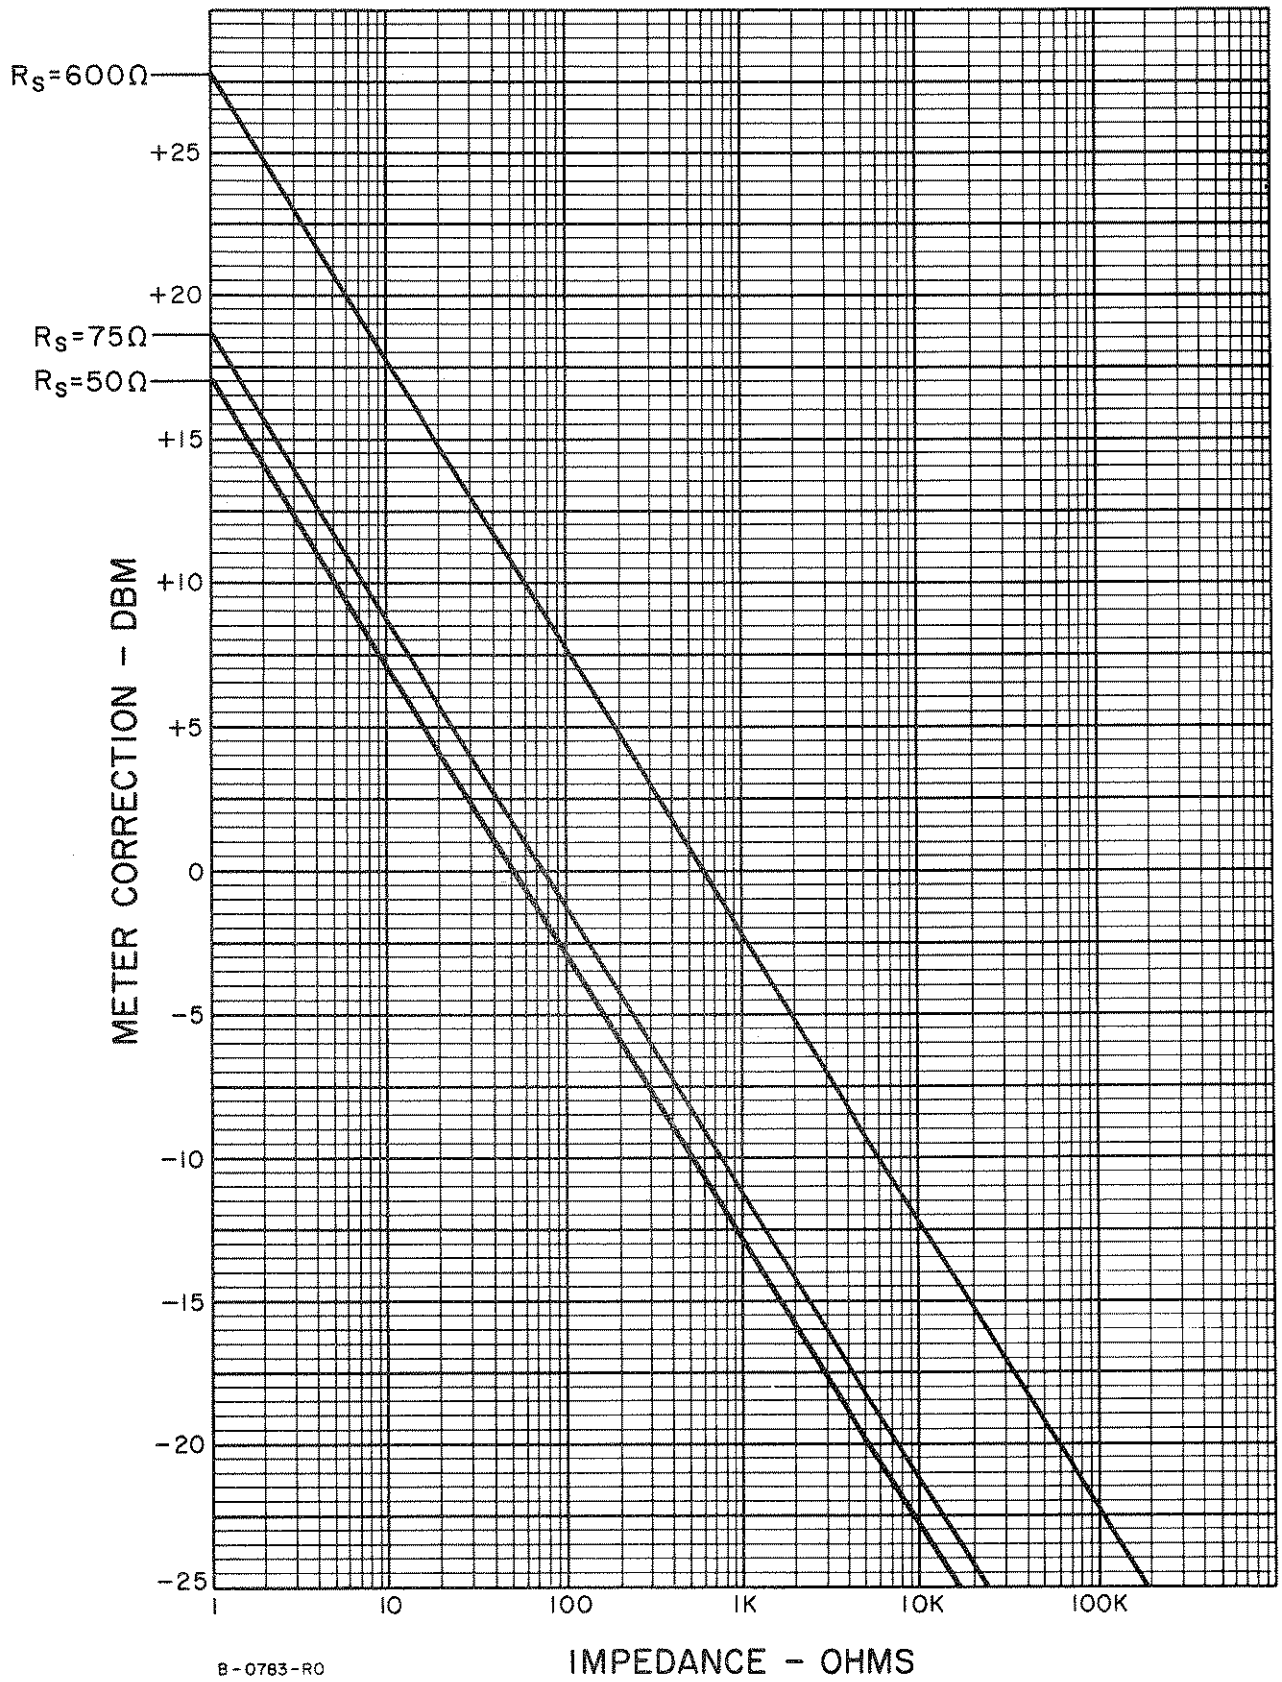

Figure 3-2. Impedance Correction Graph
- g. The output monitor, M1, indicates the rms value of the output voltage, and the power level in dBm for resistive loads of 50 ohms. The output voltage level is obtained by multiplying the monitor scale readings by the monitor scale multiplier which appears on the OUTPUT ATTENUATOR switch. Use the following equation and the impedance correction graph of Figure 3-2 to obtain the Model 651B output power level in dBm, for loads other than those marked on the output connectors.
The indicated power level for an actual output voltage of 1.66 volts would be +17.3 dBm on the 3.0 V (+20 dBm) range. The actual power level (with the 600  $\Omega$  load) is the algebraic sum of the theoretically indicated power level (+17.3 dBm) and a correction factor obtained from the impedance graph of Figure 3-2. For this example, a correction factor of -10.8 dBm is obtained from the 50  $\Omega$  output impedance line of the graph with a 600  $\Omega$  load. The actual power level then is +6.5 dBm [+17.3 dBm + (-10.8 dBm)].
For Option 01-651B which has the dBm scale of the output monitor referenced to 1 milliwatt into 600  $\Omega$  use the 600  $\Omega$  output impedance line of graph of Figure 3-2.
For Option 02-651B which has the dBm scale of the output monitor referenced to 1 milliwatt into 75  $\Omega$  use the 75  $\Omega$  output impedance line of graph of Figure 3-2.